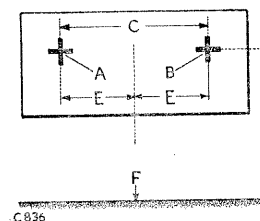

Fig. P-18—Headlamp beam setting board
3. Adjust the beam by turning the adjusting screws indicated in Fig. P-18 until the area of concentrated light corresponds with the marks on beam setting board.